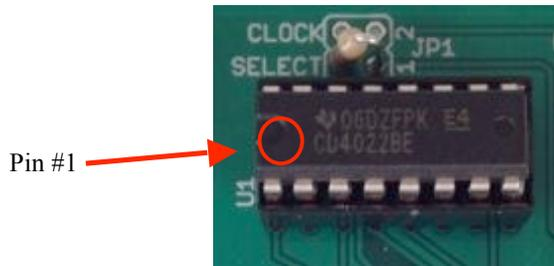

Fig. 5.4: 4022 Counter
- 5.3.1. Solder the 16 pin DIP socket the same way you just did the 8 pin and insert the 4022, again making sure pin #1 is aligned properly and notches are aligned as in Figure 5.4.